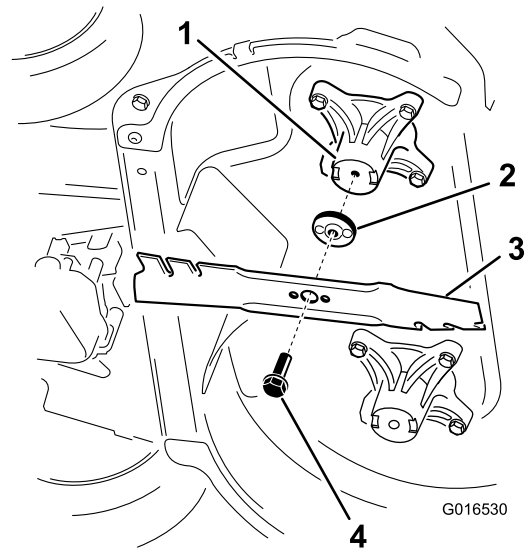

Figure 37
2. Remove each blade as shown in Figure 37.
1. Install the first blade so that it is horizontal, along with all mounting hardware as shown in Figure 37.